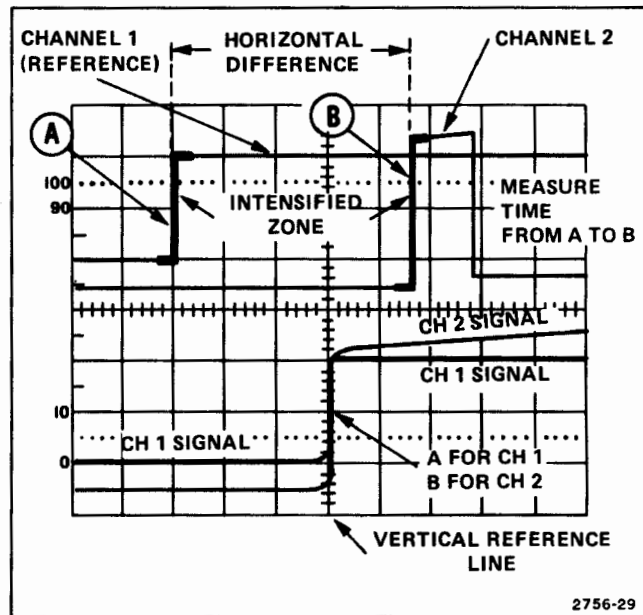

Figure 33. Time difference between two time-related pulses.
- Adjust the channel POSITION controls and the TRACE SEP control for a display similar to Figure 33.
4. Adjust the DELAY TIME POSITION control to move the reference point to desired spot on the reference signal trace (see Figure 33, Point A).
6. Adjust the  $\Delta$  TIME control to move the time measurement point to the desired spot on the Channel 2 trace (see Figure 33, Point B).